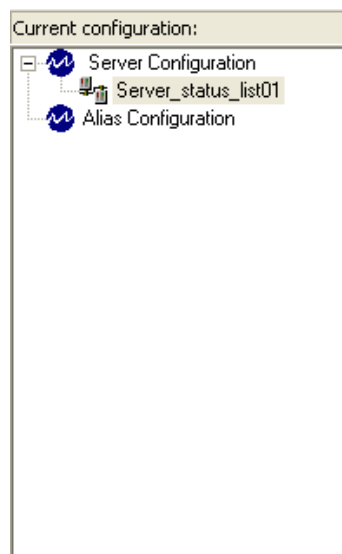

Figure 19 - New Server Status List Object
8. Click on the **OK** button. The object is created and appears as a child of the **Server Configuration** item as shown in Figure 19.